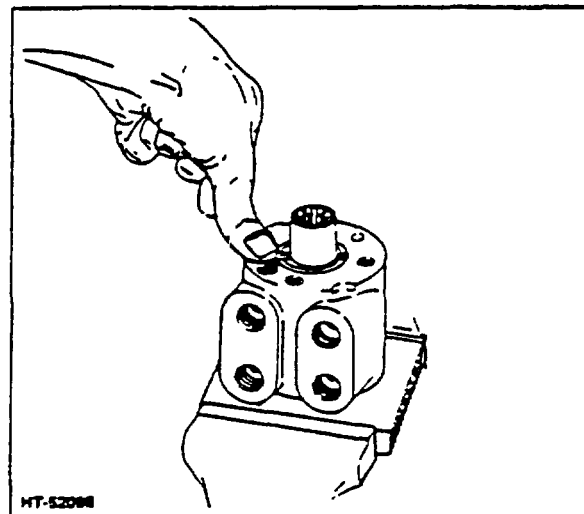

Figure 24. Rocking Check Plug During Installation
11. Install a new O-ring on the check plug, and install the plug in the housing, (Fig. 24). Exert a steady pressure on the plug, rocking it slightly so the O-ring feeds in smoothly without cutting.